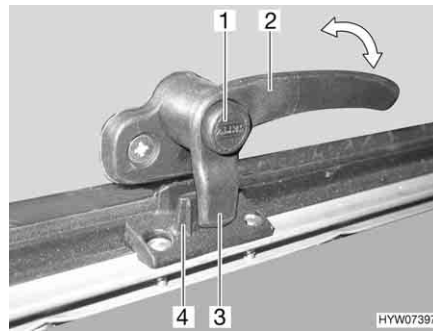
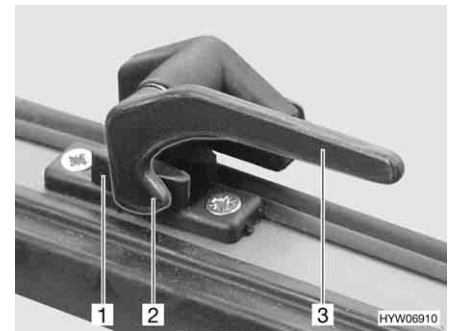

Fig. 78 Catch lever with safety knob in "closed" position
Fig. 79 Catch lever in "closed" position
- Press and hold the security button (Fig. 78,1), if present.
- Turn the catch lever (Fig. 78,2 or Fig. 79,3) a quarter turn towards the centre of the window.
- Turn the catch lever (Fig. 78,2 or Fig. 79,3) a quarter turn towards the window frame. The locking catch (Fig. 78,3 or Fig. 79,2) on the catch lever is entirely on the inner side of the window catch (Fig. 78,4 or Fig. 79,1).
- "Firmly closed" (Fig. 78 and Fig. 79)